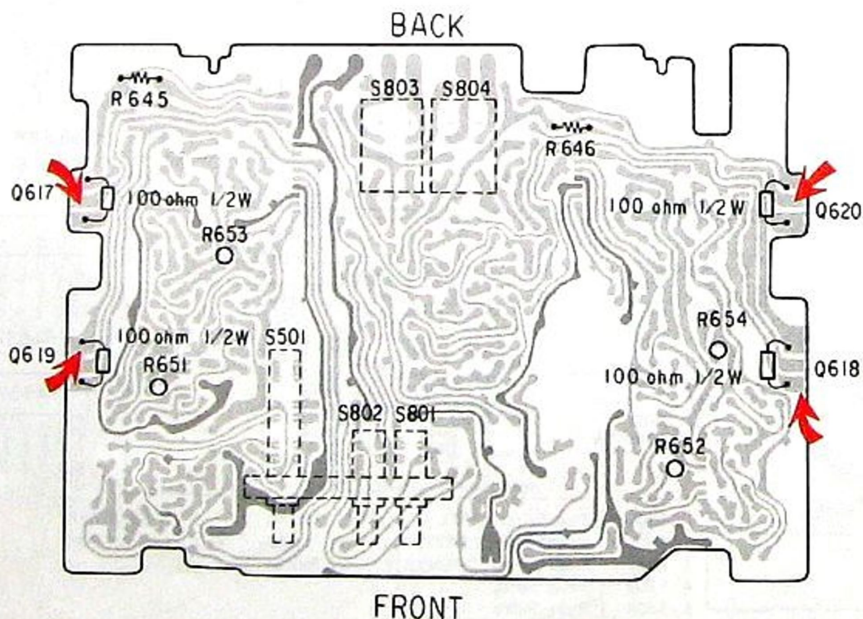

Figure 9.
1. After removing the Bottom plate, unsolder the 12 (3 x 4) pins of 4 power transistors (Q617, 618 ... 2SD718, Q619, 620 ... 2SB688) from the Main P.C. Board and solder 4 pcs of 100 ohm 1/2W resistor (22563101) between emitter and base on the pattern at four points. See figure 9.